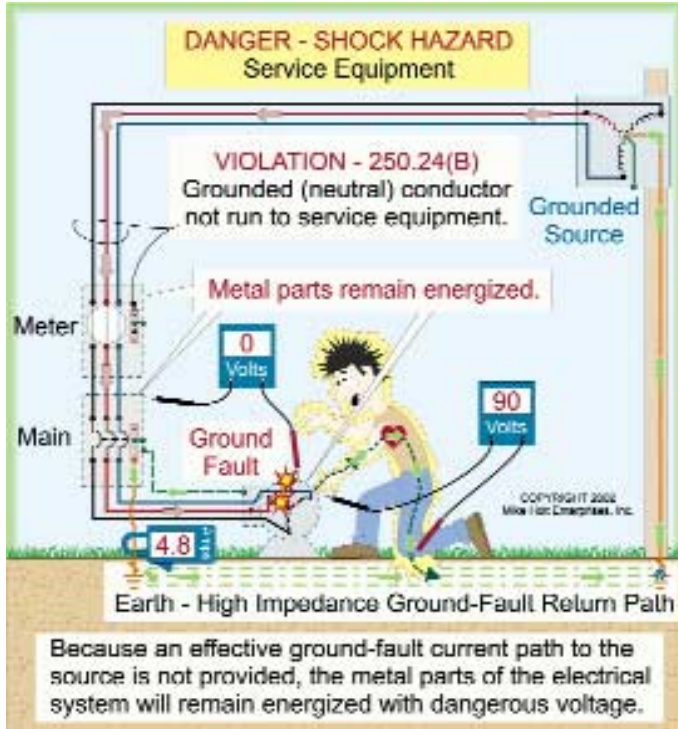

Figure 250-59
**DANGER:** If the grounded (neutral) service conductor is not run between the electric utility and service equipment, there would be no low-impedance effective ground-fault current path. In the event of a ground fault, the circuit protection device will not open and metal parts will remain energized. Figure 250-59
**(1) Minimum Size Grounded (neutral) Conductor.**